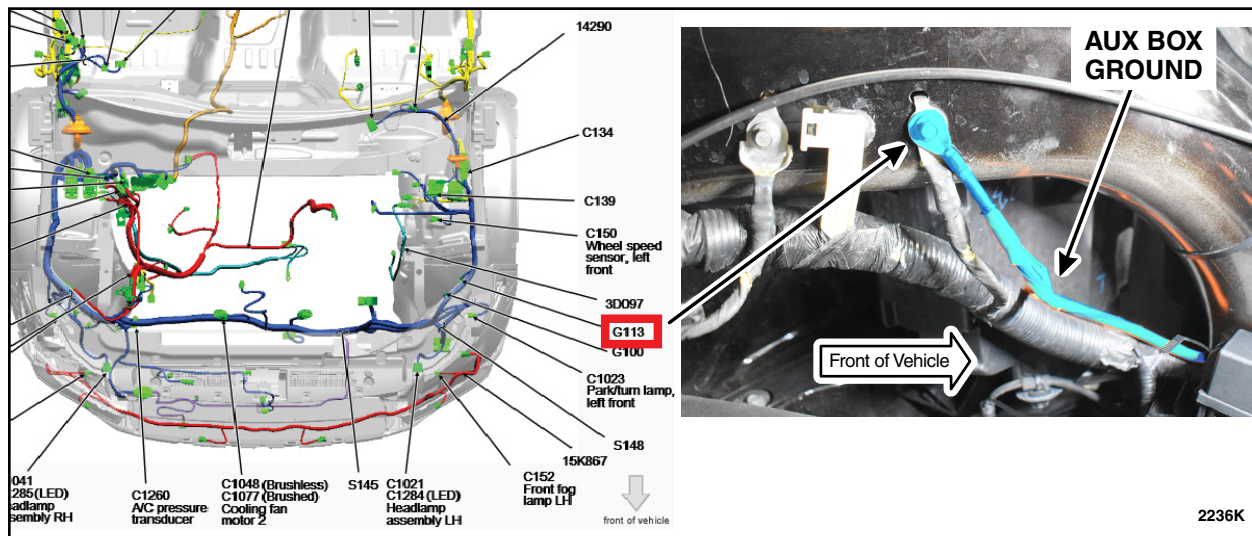

FIGURE 16
20. Install aux box ground on top of existing ground (Ground #113). See Figure 16.